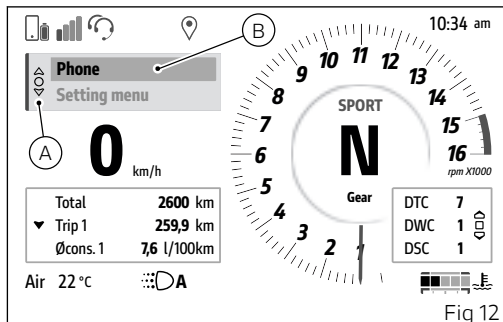

Fig 12
To return to the call in progress window (D), select "Phone" (B, Fig 12) from the Interactive Menu, and press ENTER (3).